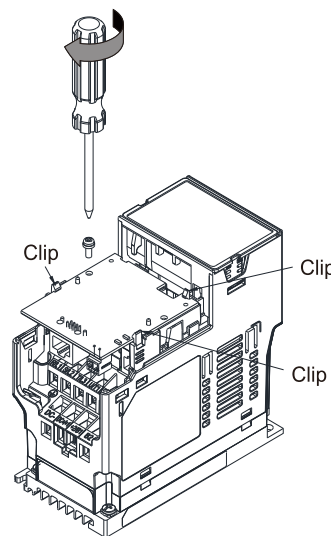

Figure 3-11
6. Make sure that three clips properly engage the option card and then tighten the screws (suggested torque value: 4–6 kg-cm [3.5–5.2 lb-in.] [0.39–0.59 Nm]), as shown in Figure 3-11.